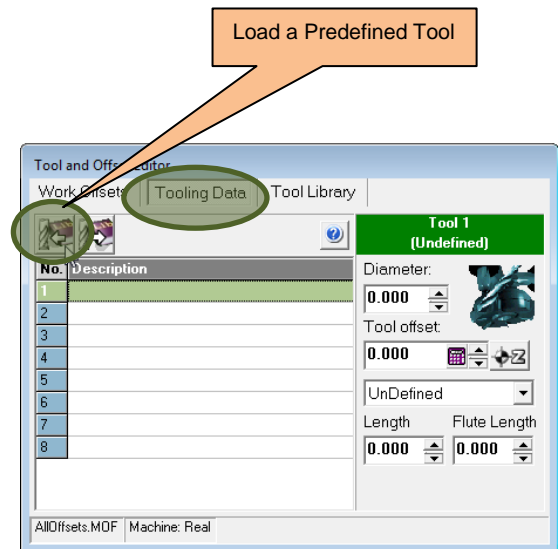

Figure 5
- In the Tool and Offset Editor window select the "Tooling Data" tab by clicking on it (Figure 5).
- Click on the Load a Predefined Tool from the Tool Library icon (Figure 5).